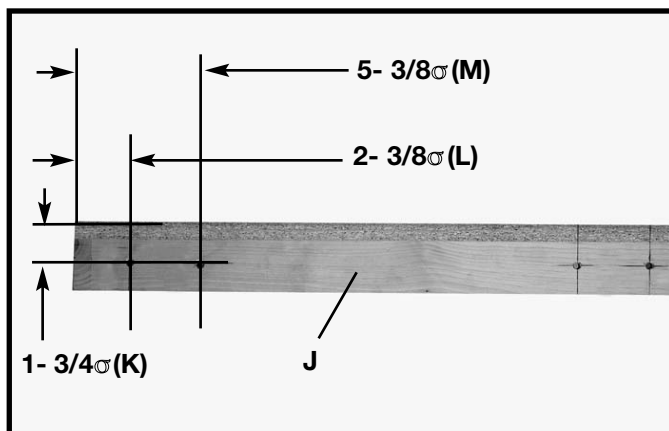

Fig. 82
7. Mark the position of the four leg mounting holes from each end of the table as shown in Fig. 82. Using a 1/4 drill bit, drill four through holes through the end piece (J) of the table at the dimensions shown at (K) (L) and (M).